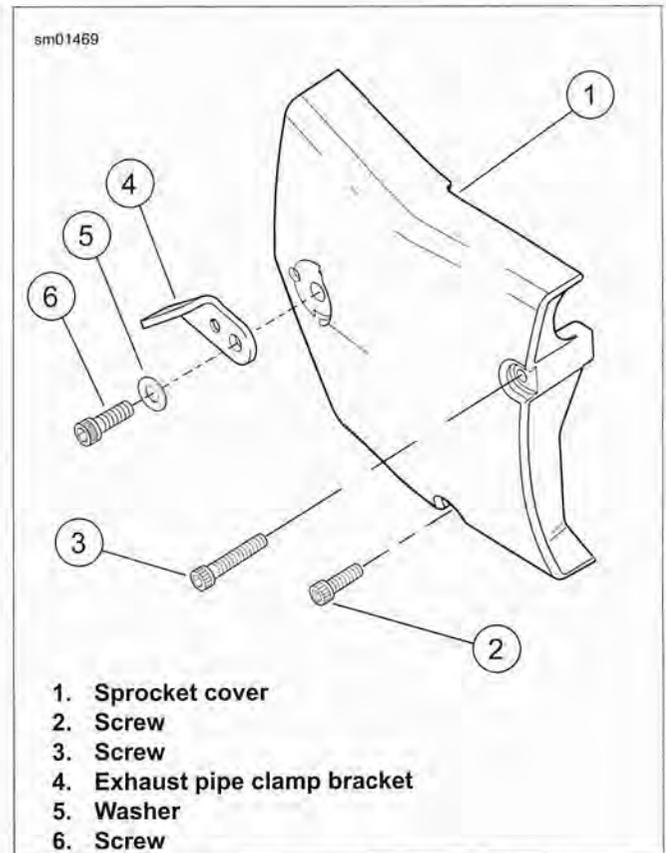

Figure 5-102. Sprocket Cover: XL Models
2. See Figure 5-102. Remove screw (6), washer (5) and exhaust pipe clamp bracket (4). Remove two screws (2, 3) and remove sprocket cover (1).
5. See Figure 5-102. Install sprocket cover (1). Secure with two screws (2, 3). Note that long screw goes in top hole, short screw in bottom hole. Do not tighten screws at this time.
6. Install exhaust pipe clamp bracket (4), washer (5) and screw (6). Tighten to 30-33 ft-lbs (40.7-44.8 Nm). Now tighten screws (2, 3) to 80-120 **in-lbs** (9.0-13.6 Nm).